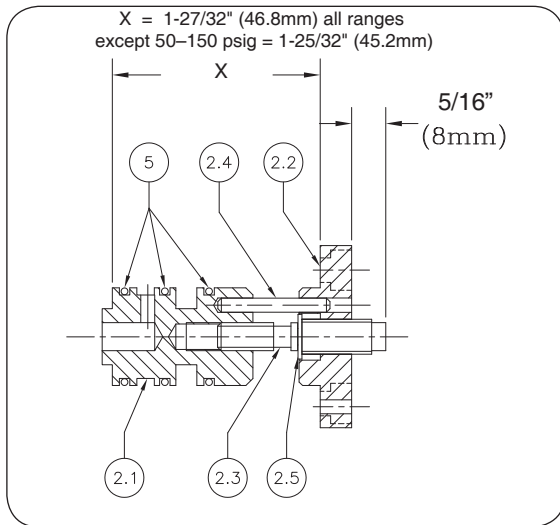

Figure 10
8. Take all the metal parts except the gauge (11) and nameplate (10) and clean in suitable solvent. Clean and air blow all drilled air passages.
9. Install pressure gauge (11) into the pneumatic housing (1) using suitable thread sealant.
10. Install new O-rings (5) on sensor sub-assembly (2). Check the two dimensions given in Figure 10 of the sensor sub-assembly as “final settings”.
A. Improper sensor sub-assembly setting.	A. Remove sensor sub-assembly. Check dimension to those indicated in Figure 10. If dimension is correct, and high setting cannot be reached, decrease dim. "X" by rotating sensor end plate 1/2 revolution CW; reverse for lower setting.